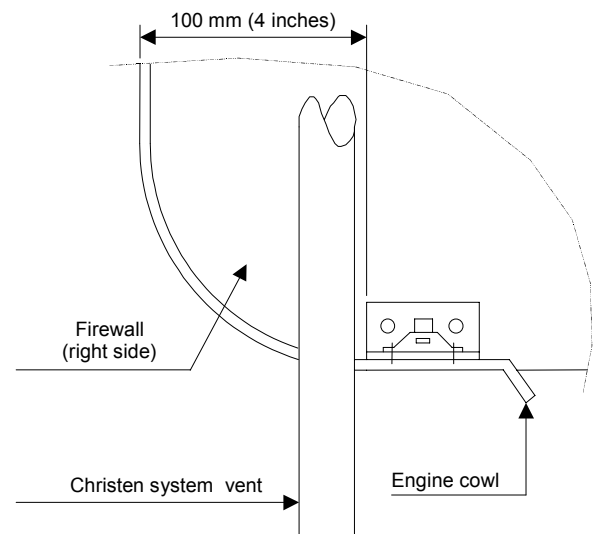
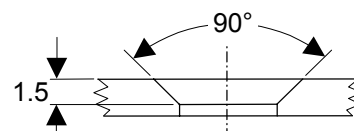
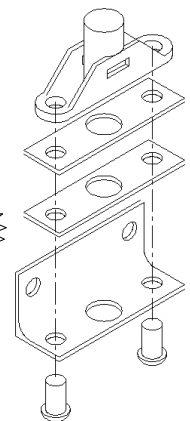

Figure 2
Figure 3
Figure 4
- (B) Drill a 5 mm hole into the firewall bottom part for the second screw.
- (C) Put second angle bracket on right side at 100 mm (4 inches) from fuselage flank (refer to fig. 2).
- (D) Drill two 5 mm holes into the firewall bottom part to install the right angle bracket.
- (E) Put in place upper and lower engine cowls.
- (F) Mark and locate fixation holes with engine cowl and angle bracket positioned.
- (G) Remove lower engine cowl.
- (H) Drill holes into engine cowl (refer to fig.3).
- (I) Countersink angle bracket holes to flush rivets heads.
- (J) Rivet captive nuts on each angle bracket after having inserted the two plates (refer to fig. 4). If the engine cowl is too thick, the screw may not have enough length in the nut. In that case, only one plate may be inserted. Check if the screw is not stop at the end of the nut in stead of tightening the engine cowl.